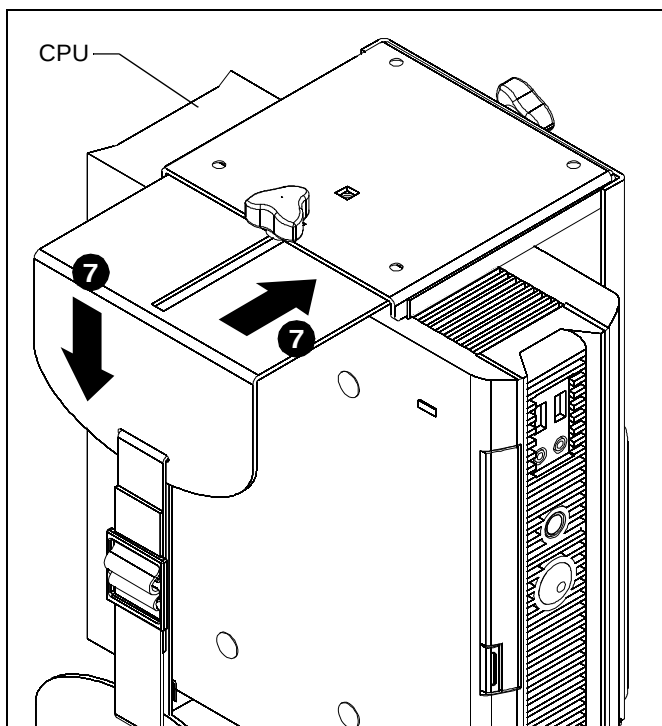

Figure 6
6. Set CPU in CPU mount (A). (See Figure 6)
7. Use adjustment knobs to compress mount around CPU until CPU is tightly secured in mount (A). (See Figure 6)